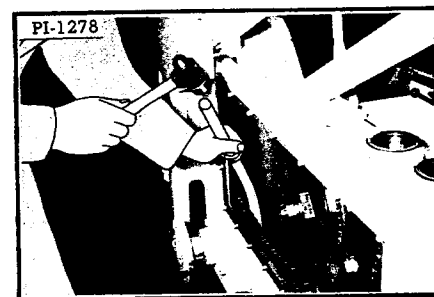

Fig. 80 Locking the Locking Washer
10. Lock the sprocket holding nut into position by bending the locking washer over one of the flats of the nut and over a flat spot on the sprocket hub. Use a bar to start bending the washer then use a hammer (Figure 80).